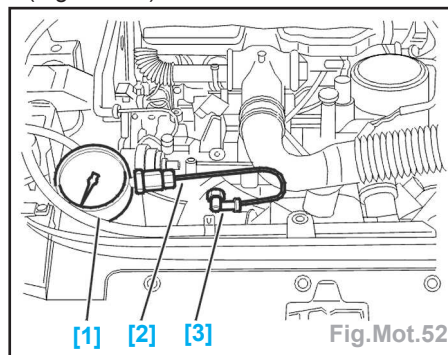

Fig.Mot.52
- Monter le raccord [3] (ref.1503-E) (Fig.Mot.52).